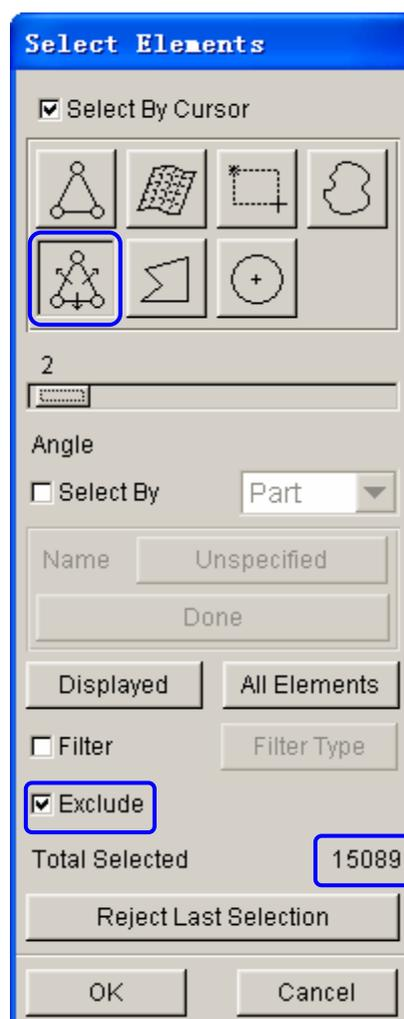
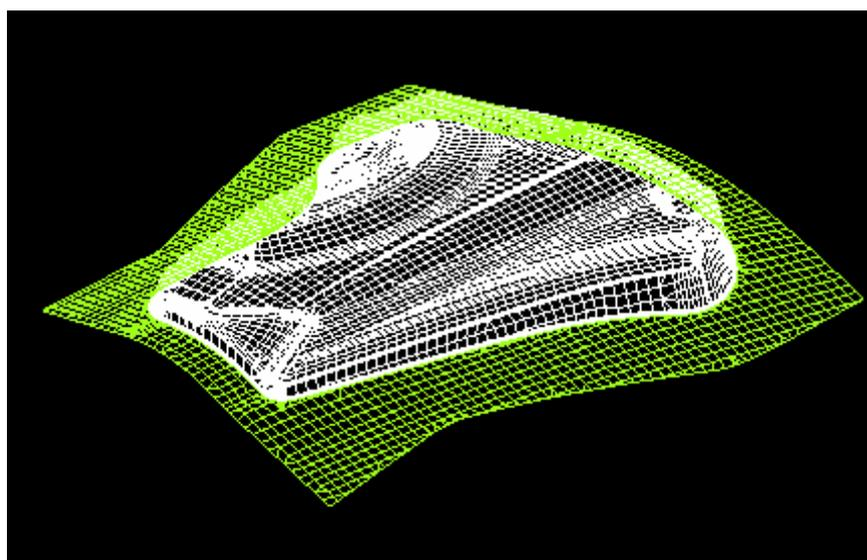

Figure 1.21 Select elements
Figure 1.22 Highlighted elements
13. Select some elements to define **punch** from the current database. The program will copy these elements into a default part, and automatically add the part to the list of **punch**. Click the **DISPLAYED** button in the **SELECT ELEMENTS** dialog box to select all elements. Toggle on the **Exclude** option and select the elements on binder surface using the **Spread** function with 2° spread angle, as illustrated in Figure 1.21. The program prompts that 15089 elements have been selected. As illustrated in Figure 1.22, the elements on binder surface is excluded.